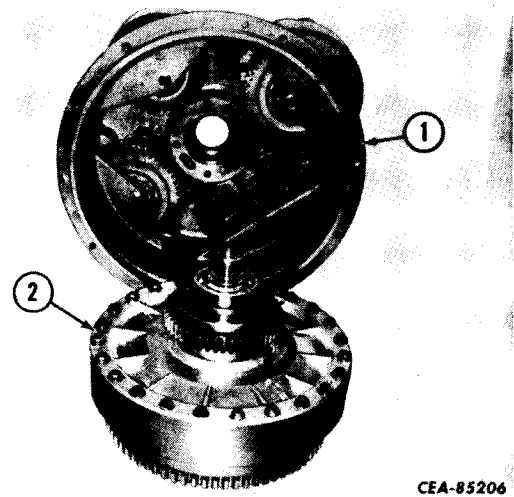

Figure 3-8
Lift the converter housing (1, Fig. 3-8) off of the converter (2).